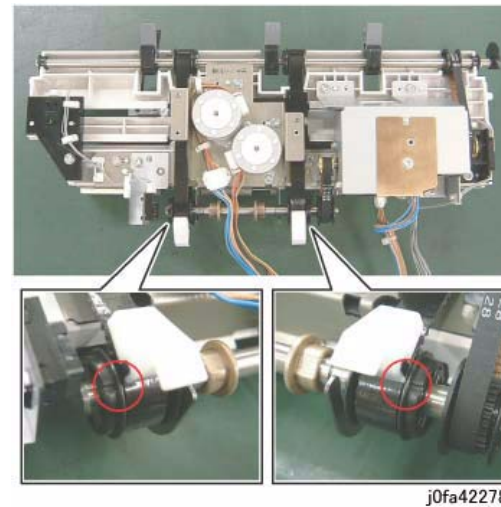

Figure 7 Installing the Eject Belt
- 2. Install and align the Eject Belt with marks on the Pulleys (Figure 7):